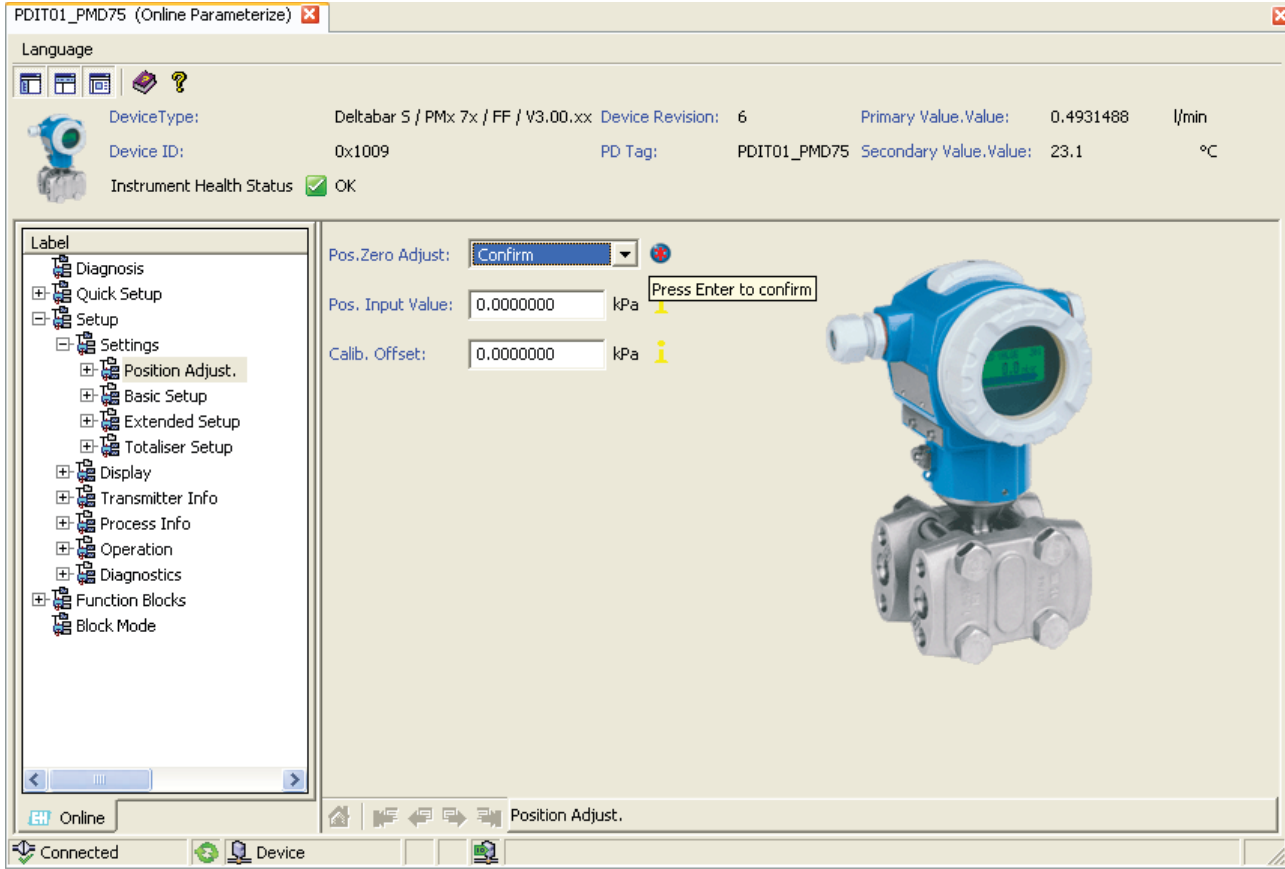

Figure 2-20. Position Adjust screen.
32. Go to *Setup ► Settings ► Position Adjust.* as shown in Figure 2-20. Select *Confirm* under *Pos. Zero Adjust* and press *Enter* to set the new zero.